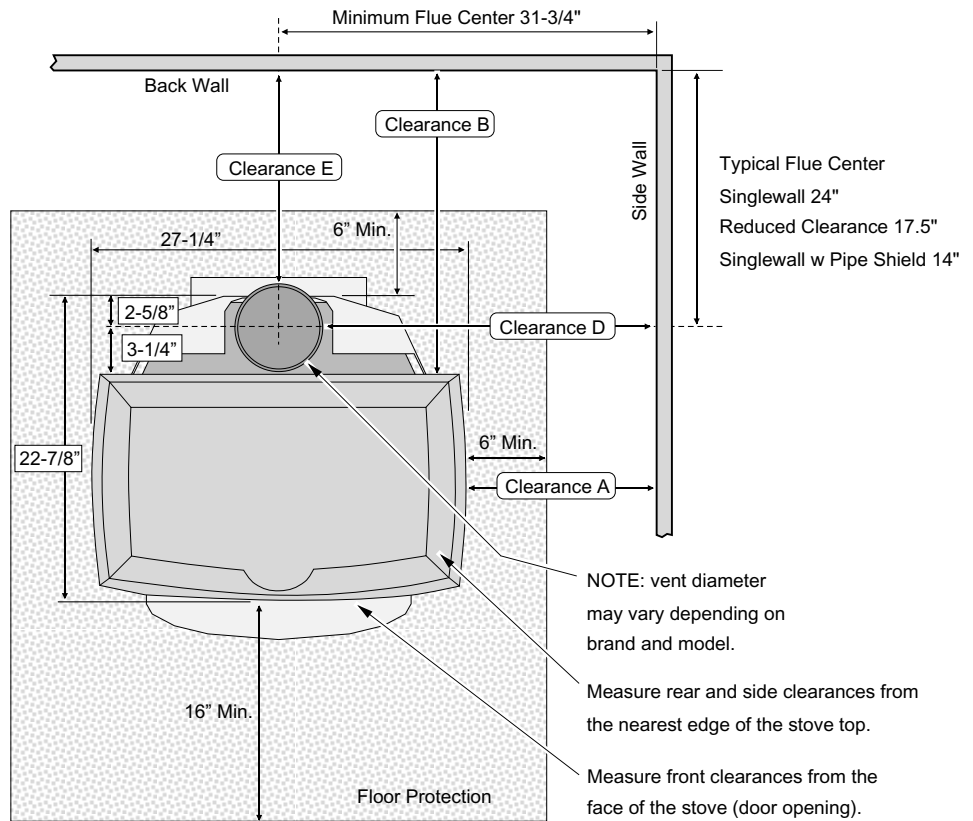

Figure 2
- Floor protection must extend 6" to the sides and rear of the stove and 16" to the front of the stove 39.25" wide by 44.875" deep - see Figure 2 and Figure 3).
- The following clearances must be met (see Figure 2 and Figure 3)